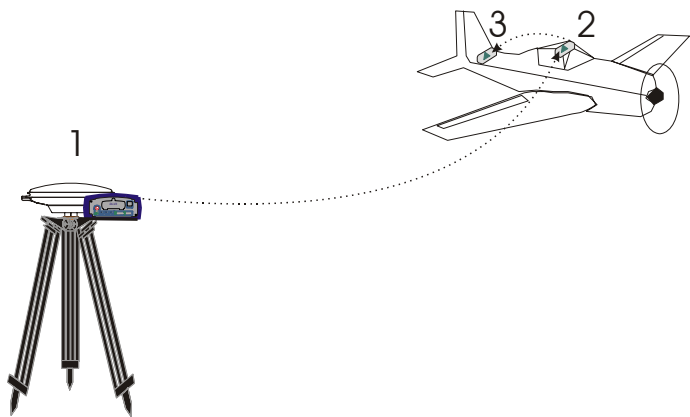

Figure 6: Moving Base Station ‘Daisy Chain’ Effect
1. Consider the case where there is a fixed base and an airplane flying with a moving base station near its front and a rover station at its tail end. See *Figure 6* on *Page 148*.